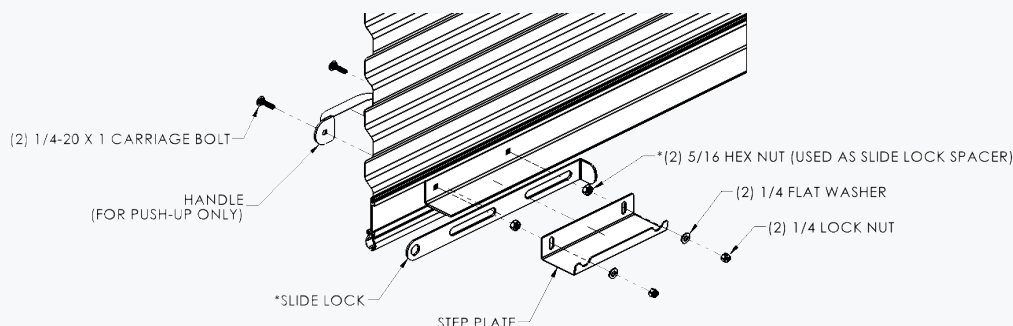

figure 22: Slidelock & Step Plate (Manual Operation)
- ✦ For chain hoist operated doors, lower the bottom bar and install the slide lock and step plate using (2) 1/4-20 x 1" carriage bolts, (2) 5/16-18 hex nuts, (2) 1/4 flat washers and (2) 1/4-20 nylon lock nuts. Do this at both ends of bottom bar. **See Figure 22.**
- ✦ *For electrically operated doors, lower bottom bar and install step plate using (2) 1/4-20 x 5/8 carriage bolts and (2) 1/4-20 Keps nuts. **See Figure 22 (OMIT SLIDE LOCK)**